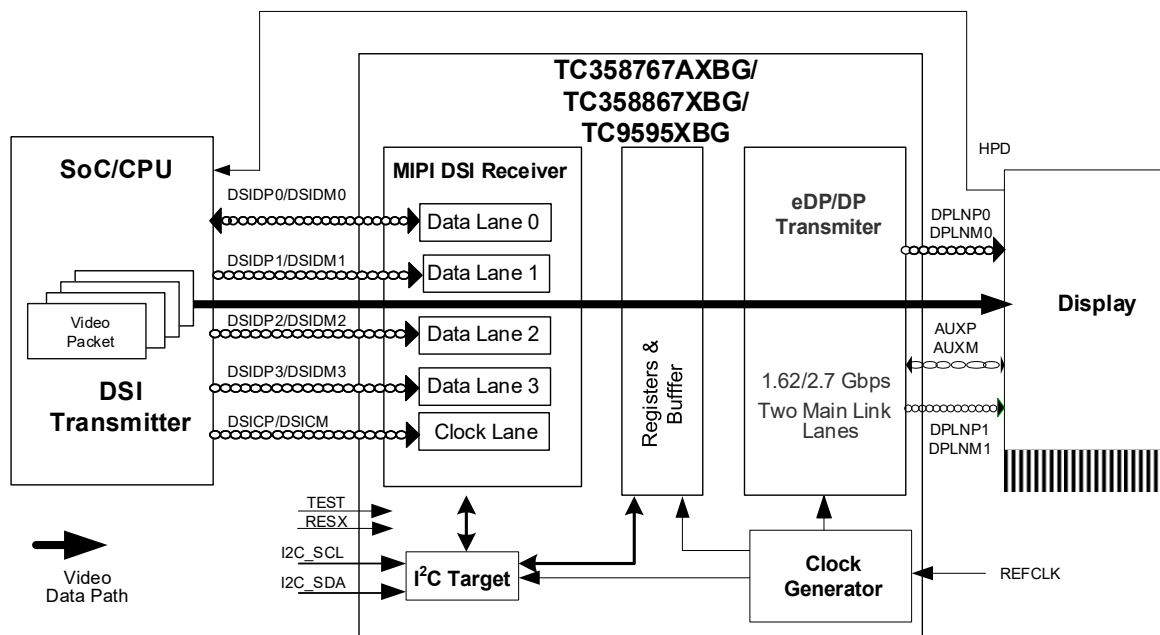

Figure 1.1 System Overview with TC358767AXBG/TC358867XBG/TC9595XBG in MODE_S21 Configuration
- Mode_S21: A system configuration where TC358767AXBG/TC358867XBG/TC9595XBG may typically be used is shown in Figure 1.1. In this configuration, the TC358767AXBG/TC358867XBG/TC9595XBG can support displays with resolution up to WUXGA (1920 × 1200) at 24 bit, 60 fps or WUXGA (1920 × 1200) at 18 bit, 60 fps. Video stream source is from DSI Host.